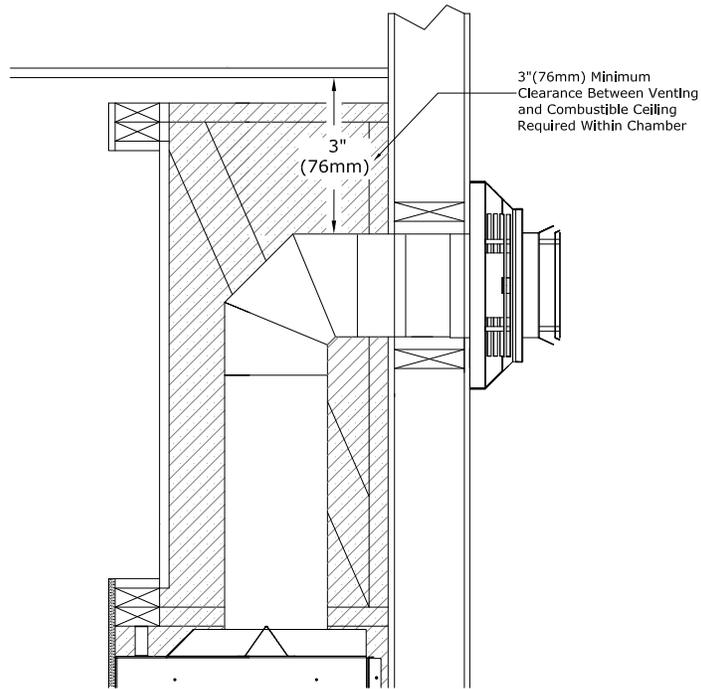
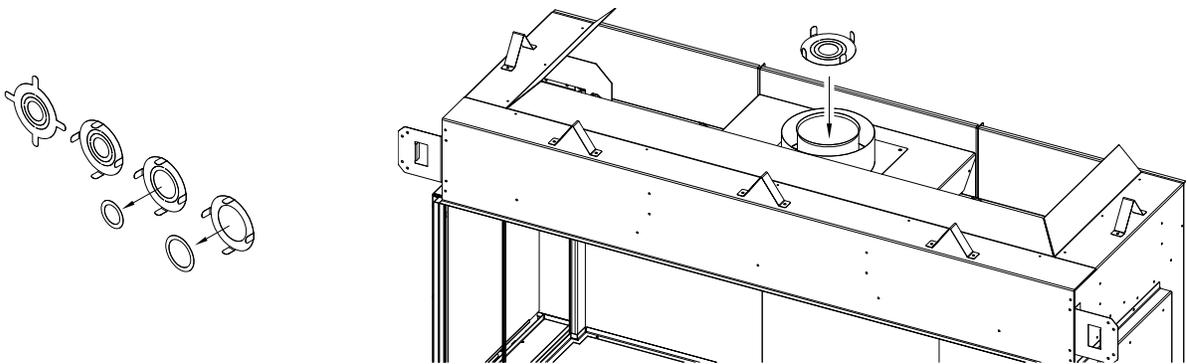

Figure 6.3 - Horizontal Vent Pipe Clearance Inside the Fireplace Enclosure
Figure 6.4 - Vent Restrictor
- Any horizontal pipe within the fireplace chamber must have a minimum clearance of 3" (76mm) from the top of the vent pipe to the chamber top. See Figure 6.3.
- The restrictor plate is shipped with all inner rings intact, and when installed, provides the most vent restriction. There are (2) inner rings that can be knocked out. As you knock out and remove an inner ring you have less vent restriction whereas removing both inner rings you will have the least amount of vent restriction.
- Follow Figure 6.4 for restrictor plate installation before attaching venting or through the firebox ceiling if venting is already attached. For vent restriction plate recommendations and adjustments, see section 10.2.3, Vent Restriction (after installation).
Figure 6.3 shows the minimum clearance the top of the vent pipe must maintain through the entire fireplace chamber. Figure 6.4 shows how to install the vent restrictor before vent pipe installation. Refer to Section 6.4.